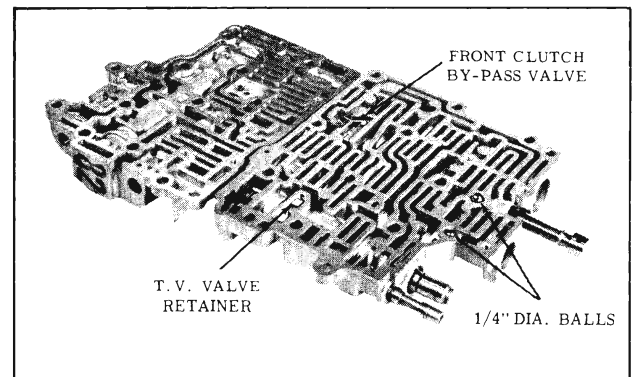

Fig. 3-285 Ball Checks
7. Remove (2) 1/4 dia. check balls from the primary valve body. (Fig. 3-285)